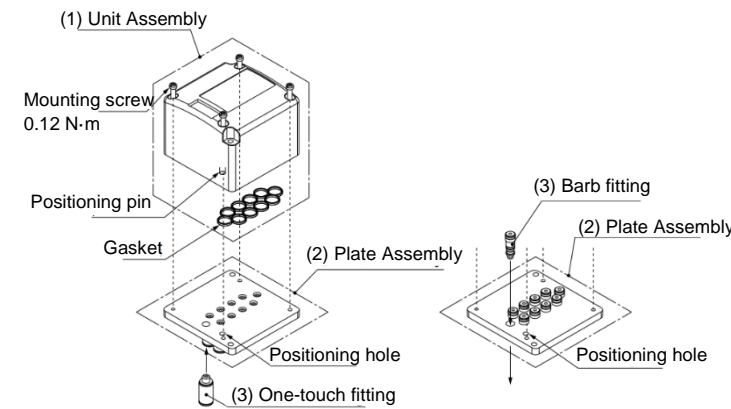

Figure 12. Manifold assembly and components
- Available as replacement parts (see Figure 12):